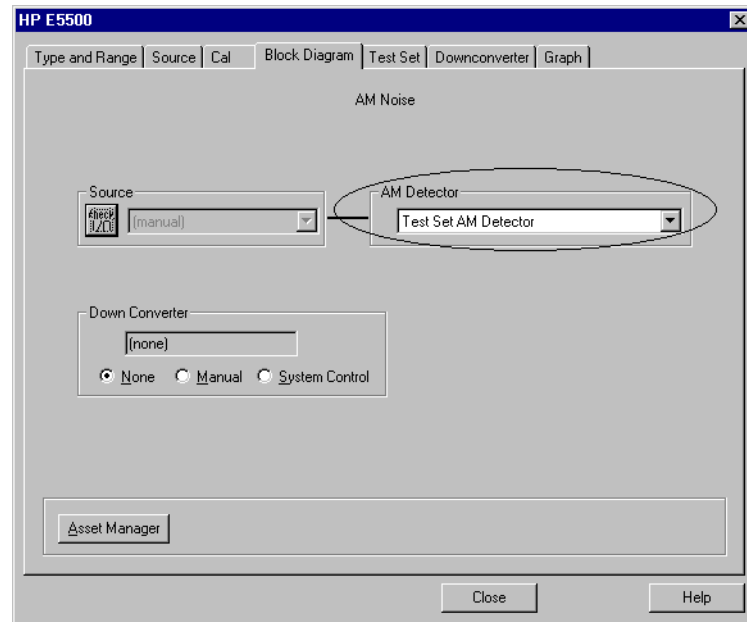

Figure 13-6 Select Parameters in the Block Diagram Tab
- 12** From the **Phase Detector** pull-down, select **AM Detector**. See Figure 13-6.